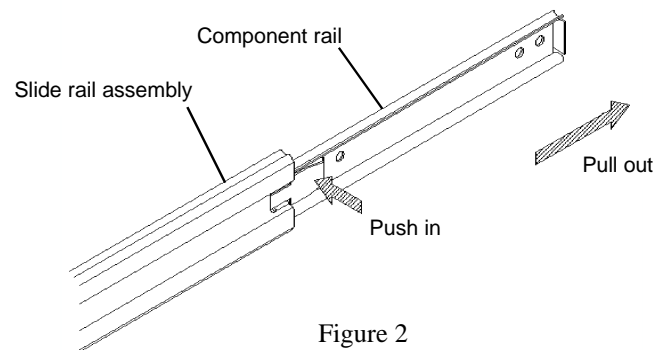

Figure 2
2. Remove the component rail from the slide rail assembly by holding down the release latch and slipping the component rail out. See **Figure 2**.